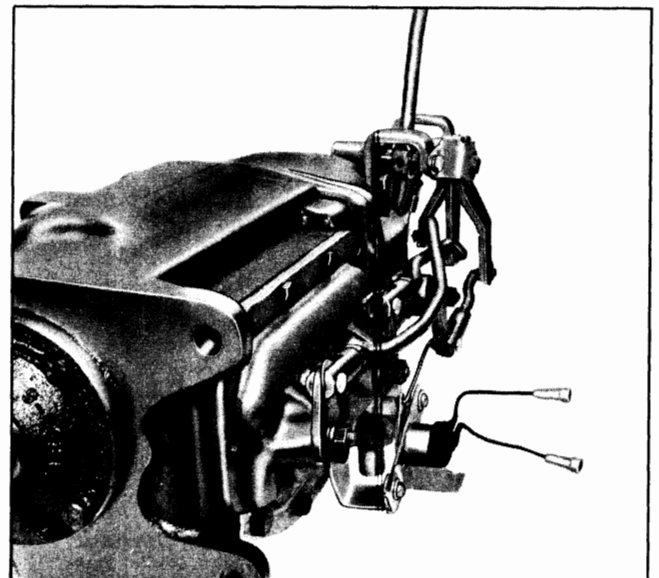

Fig. 7B-35 Back-up Light Switch Assembly
10. Connect back-up light leads to back-up light switch leads, using female connectors (Fig. 7B-35).